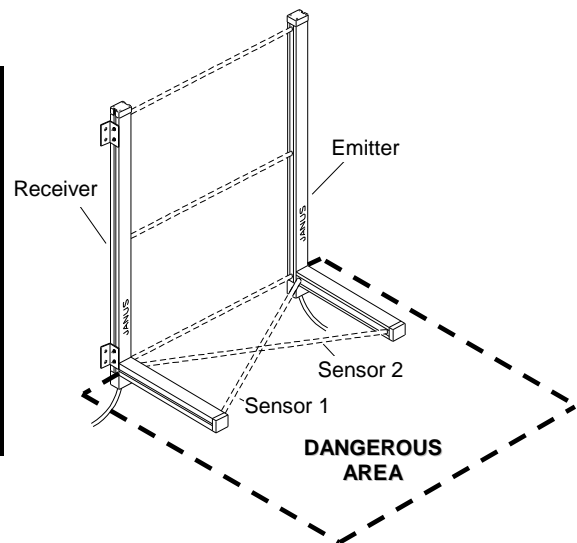

Figure 7
In this model, the sensors 1 and 2 are on the same side of the vertical light curtain and are placed in front of the guarded opening (Figure 7). This model is one-way and is useful for protecting pallet exit openings.
- ⚠ To guarantee the safety operation of the MXL L series, the horizontal muting sensor must be mounted INSIDE the dangerous area (dashed on Figure 7).**